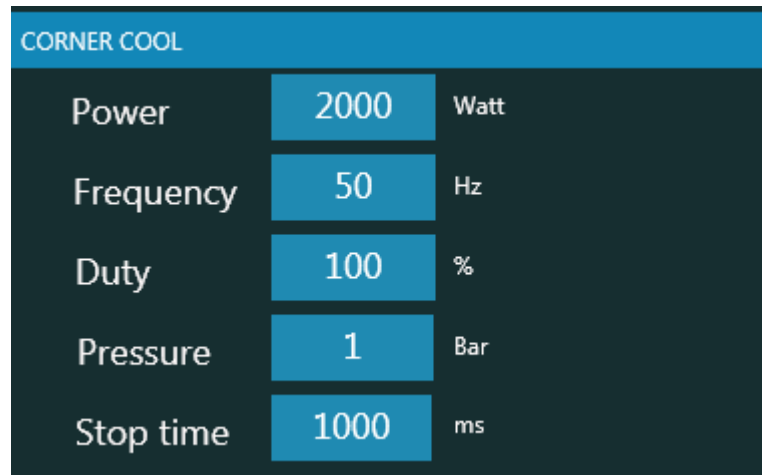

Figure 43
- **CORNER COOL:** In this area some of cutting parameters may be changed when the cutting head reached sharp corner as **Figure 43**. This function is used to cut sharp corner perfectly.